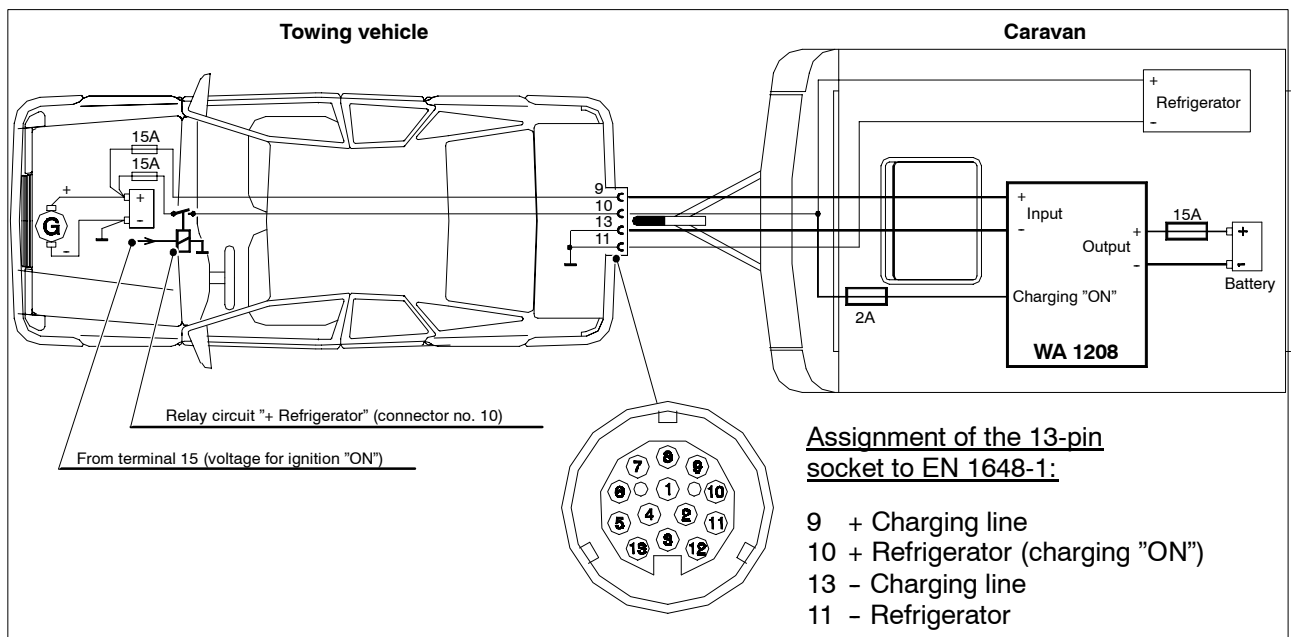

Fig. 2 Block diagram of LT 226 connection
To prevent damage in the event of a fault, fuses must be inserted as in Fig. 2 depending on the cable cross-section (EN 1648-1 and 2).
2. Establish the electrical connections as in Fig. 2. Note: